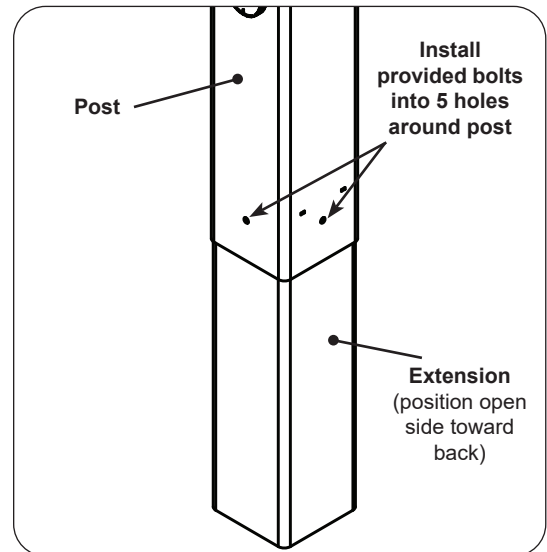

Fig. 25-1 Install extension to post
1. Attach the extension to the bottom of the grill post so that the open portion is toward the back of the grill and the five holes in the extension line up with the five (5) weld-nuts in the post (see Fig. 25-1).